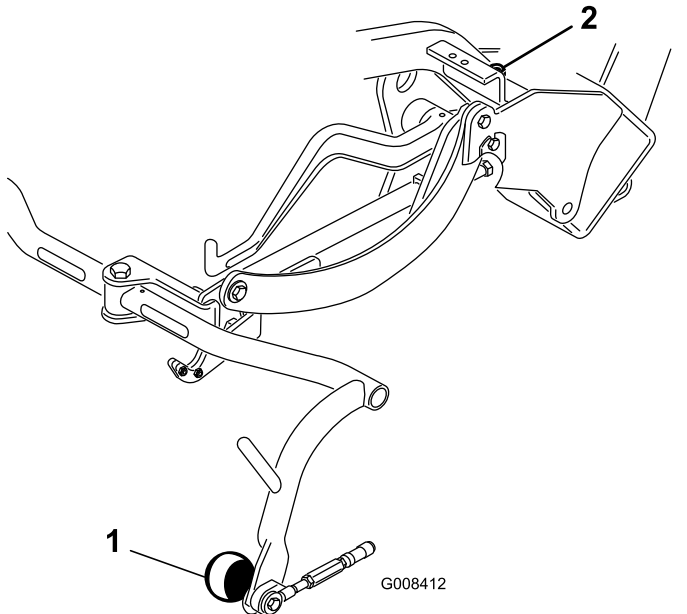

Figure 6
4. If you must adjust the clearance, loosen the jam nut on the carrier frame stop screw (Figure 6) and rotate the screw up or down to raise or lower the carrier frame. Tighten the jam nut to secure the adjustment.